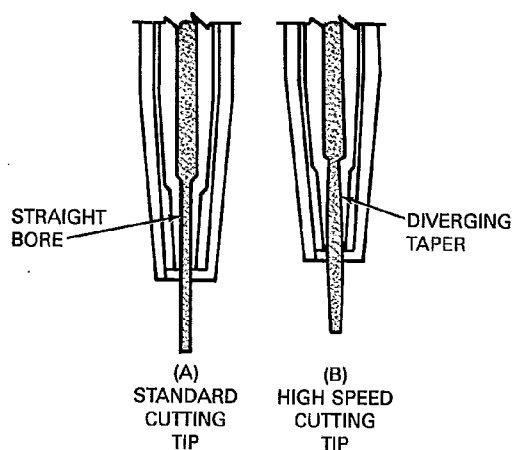

Figure 10—Oxyfuel Gas Cutting Tips
3.6 Cutting Tips. Cutting tips are precision tools (see Figures 10, 11, 15 and 16) that should not be subjected to excessive physical or thermal abuse. Tips and torches should obviously not be used as hammers because such use could result in damage to the tip that could cause inefficient and hazardous operating conditions. Exposure to excessive heat, by burying the tip in flame or slag, can result in overheating, melting of the tip, or a flashback (see 5.2). Cutting tips not in use should be stored in their original containers or in a special storage rack to avoid damage to the seating surfaces. Damage to the seat can result in gas leaks that have an adverse effect on adjustment, operation, and safety.